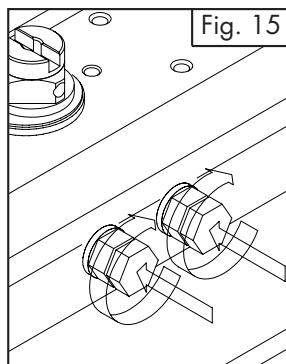

Fig. 15
D) Assembly of stop cap screws (Part 02) and stroke adjustment for models AT051U→AT801U, figures 15 and 16:
- Insert on both stop screws (02) the nut (04), the washer (03) and the o-ring (11).
- Fit the stop cap screws (02) in the body.